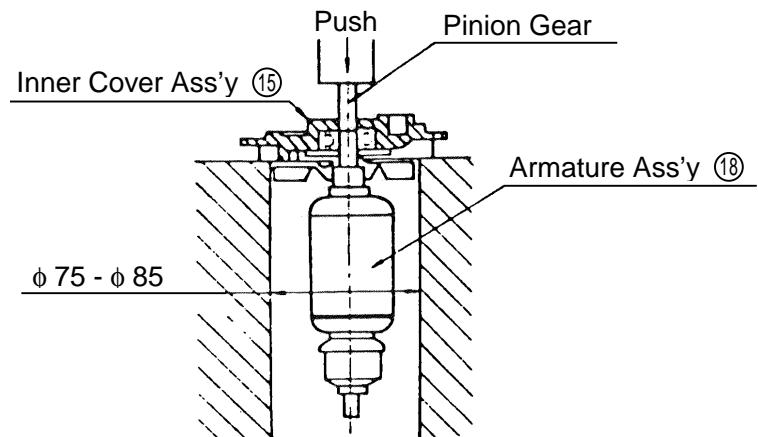

Fig. 7-1
- A. Take off the Carbon Brush Cap (30), and remove the Carbon Brush (31) from the Housing (28).
- B. Loosen the two Screws (7) (21) retaining the Gear Cover (9), and remove the Gear Cover from the Housing (28). Then, remove the Inner Cover Ass'y (15) together with the Armature Ass'y (18) from the Gear Cover. As shown in Fig. 7-1, support the Inner Cover Ass'y with a tubular jig and push downward on the tip of the Armature Ass'y pinion gear.